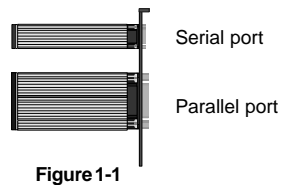

Figure 1-1
- ☐ One 9-pin serial port and 25-pin parallel port ribbon cable with bracket (Figure 1-1)